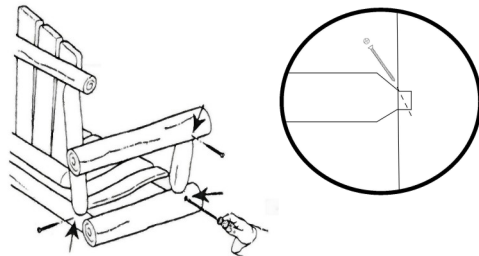

figure 3
STEP 4 Secure all dowel joints in place with screws perpendicular to the doweled end as shown below. Figure 3.